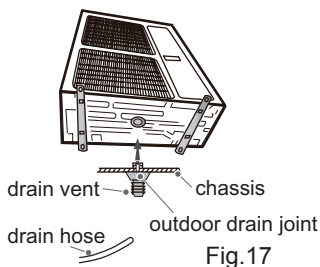

Fig.17
2. Connect the drain hose into the drain vent.(As show in Fig.17)